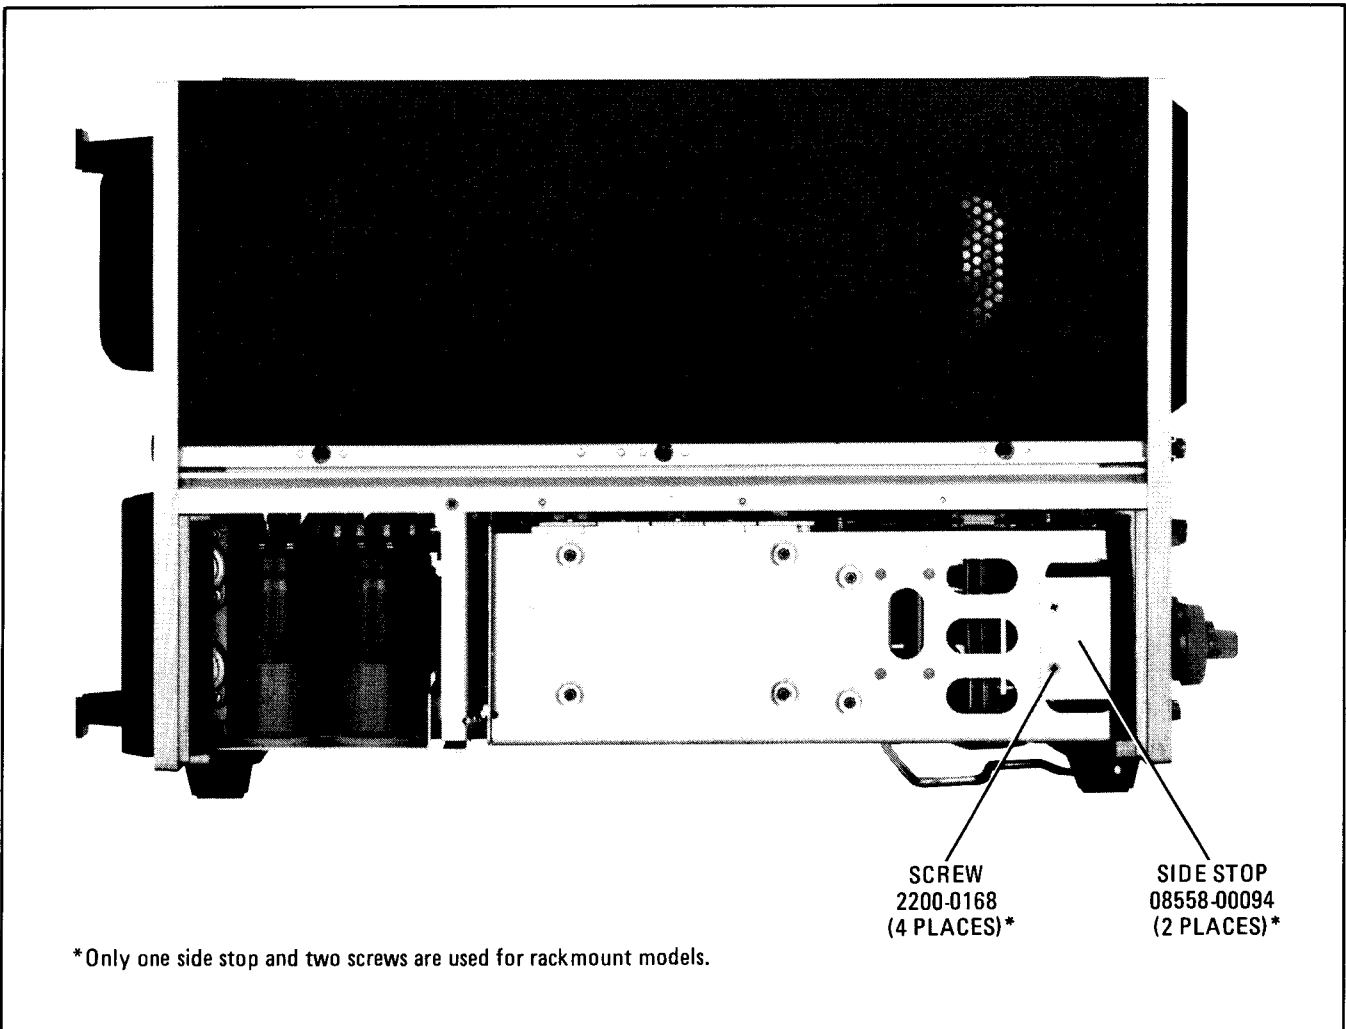

Figure 2-1. Location of Side Stops
- 2. Use flathead machine screws to install side stops as shown in Figure 2-1.
- 2. Remove side stops. (See Figure 2-1.)